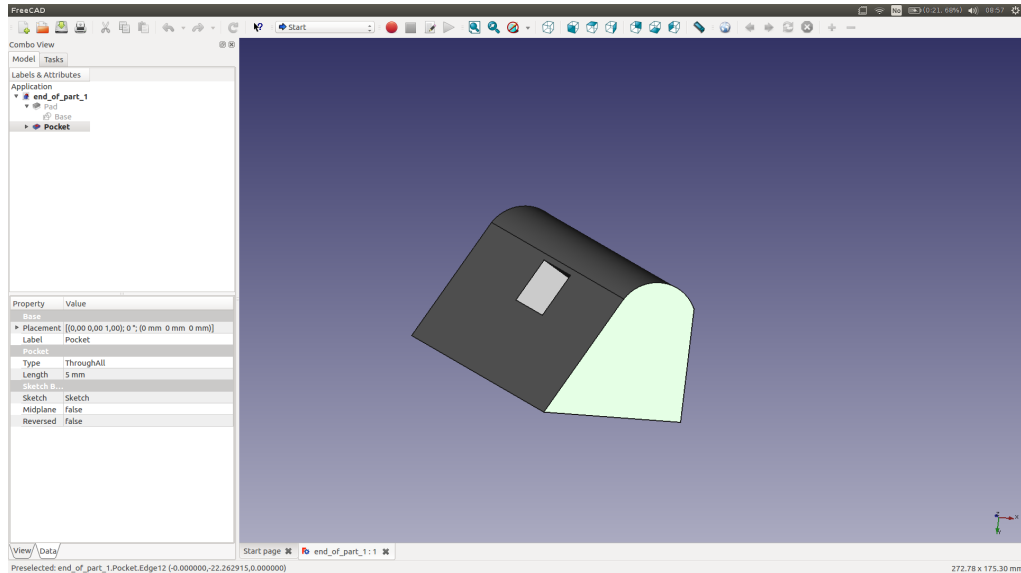

Figure 7: We will build our next sketch on a lateral face of our model.
- Select the lateral face of your object, see Fig. 7. Create a new sketch there. As you can see, the part is still displayed under the sketch but you cannot access any of its edges. For this, we need to import some edges from the 3D object into the 2D sketch.